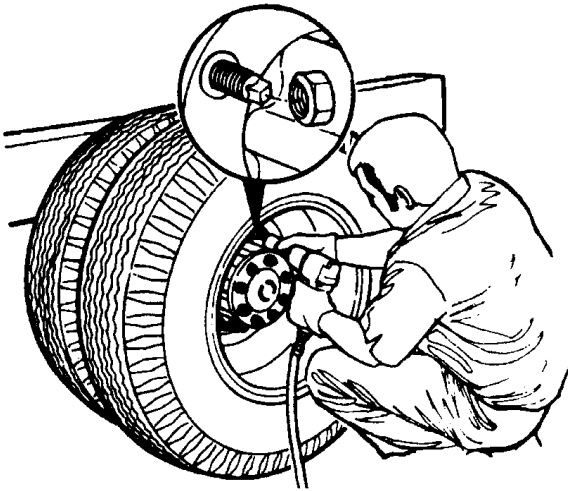

Figure 14 Remove Outer Wheel Nuts (Ball Seat)
5. Remove wheel nuts (outer nuts with dual wheels at rear) (Figure 14).